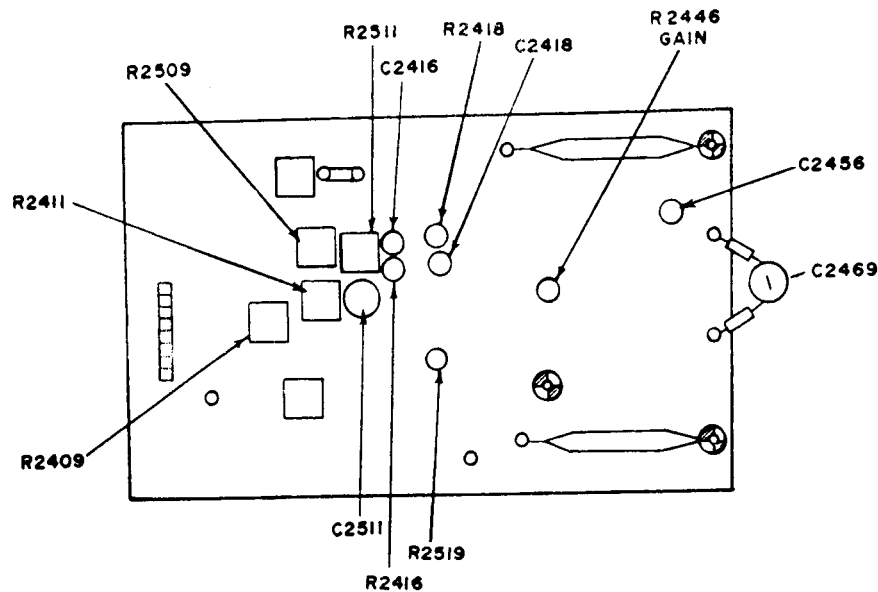
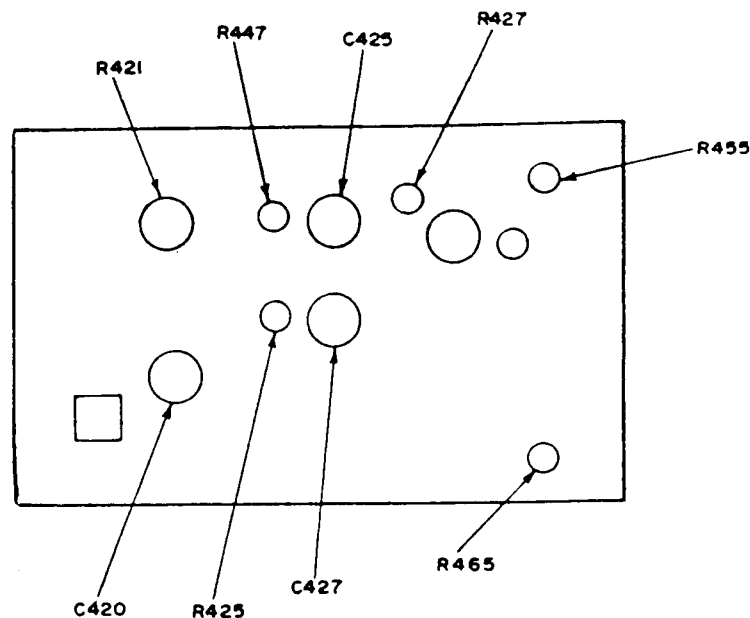

Figure 1A. Board A5 adjustments - left side view - Tektronix, Types 7613/R7613, SN B150000 and above, 7623A/R7623A and 7633/R7633.
Figure 1B. Board A5 adjustments - left side view - Tektronix, Types 7623 and 7613/R7613, SN B149999 and below.
(1) Adjust GAIN R2446 (fig. 1A) for Types 7613/R7613 with SN B150000 and above, 7633/R7633, 7623 and 7623A/R7623A. Adjust R447 (fig. 1B) for 7623 and 7613/R7613 with SN B149999 and below for 6 divisions of vertical deflection (R).
(2) Repeat technique of **a** (1) through (4) above for best compromise and optimum gain for both vertical compartments (R).
Tektronix, types 7613/R7613, SN B150000 and above, 76232A/R7623A and 7633/R7633 (fig. 1A)	Tektronix type 7623 and 7613/R7613, SNB149999 and below (fig. 1B)
²Adjust C2469 (fig. 1A) for minimum overall aberrations (R).
(6) Remove calibration fixture from right vertical compartment and install in left vertical compartment.
(7) Press **VERT MODE LEFT** pushbutton and **TRIG SOURCE LEFT** pushbutton and repeat technique of (1) through (5) above for left vertical compartment.
b. Adjustments. Adjust R2409 (fig. 1A) for Types 7613/R7613, SN B150000 and above, 7623A/R7623A and 7633/R7633. Adjust R455 and R465 (fig. 1B) for 7623 and 7613/R7613, SN B149999 and below for flat top and minimum aberrations (R).